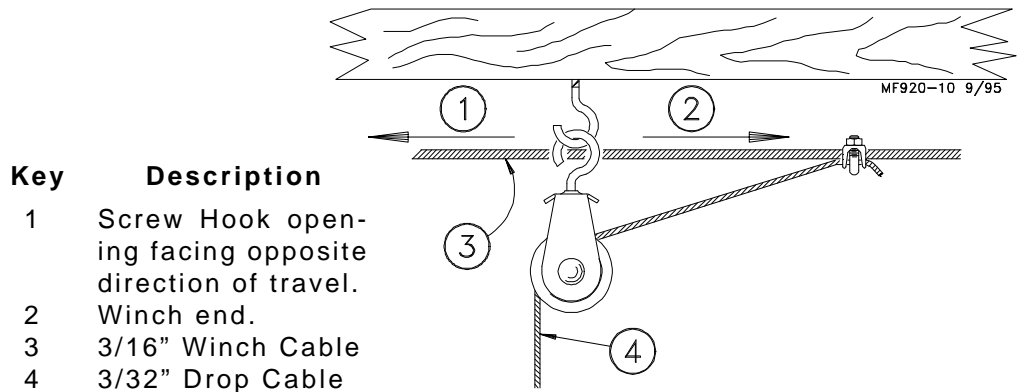

Figure 17. Screw Hook Installation (Side View)
Refer to **Figures 17 or 18 through 22** for specific installation instructions for the screw hooks and ceiling hooks.
2. The openings of the screw hooks must be pointed away from the direction of travel when the Power Winch raises the feeder line. See **Figure 17**.
- Thread the end of the 3/32" or 1/8" cable through the pulley toward the winch. Clamp this end to the 3/16" winch cable about 6" (150 mm) from the last pulley, using a 3/16" cable clamp. See applicable figure; **Figure 17 or 22.**